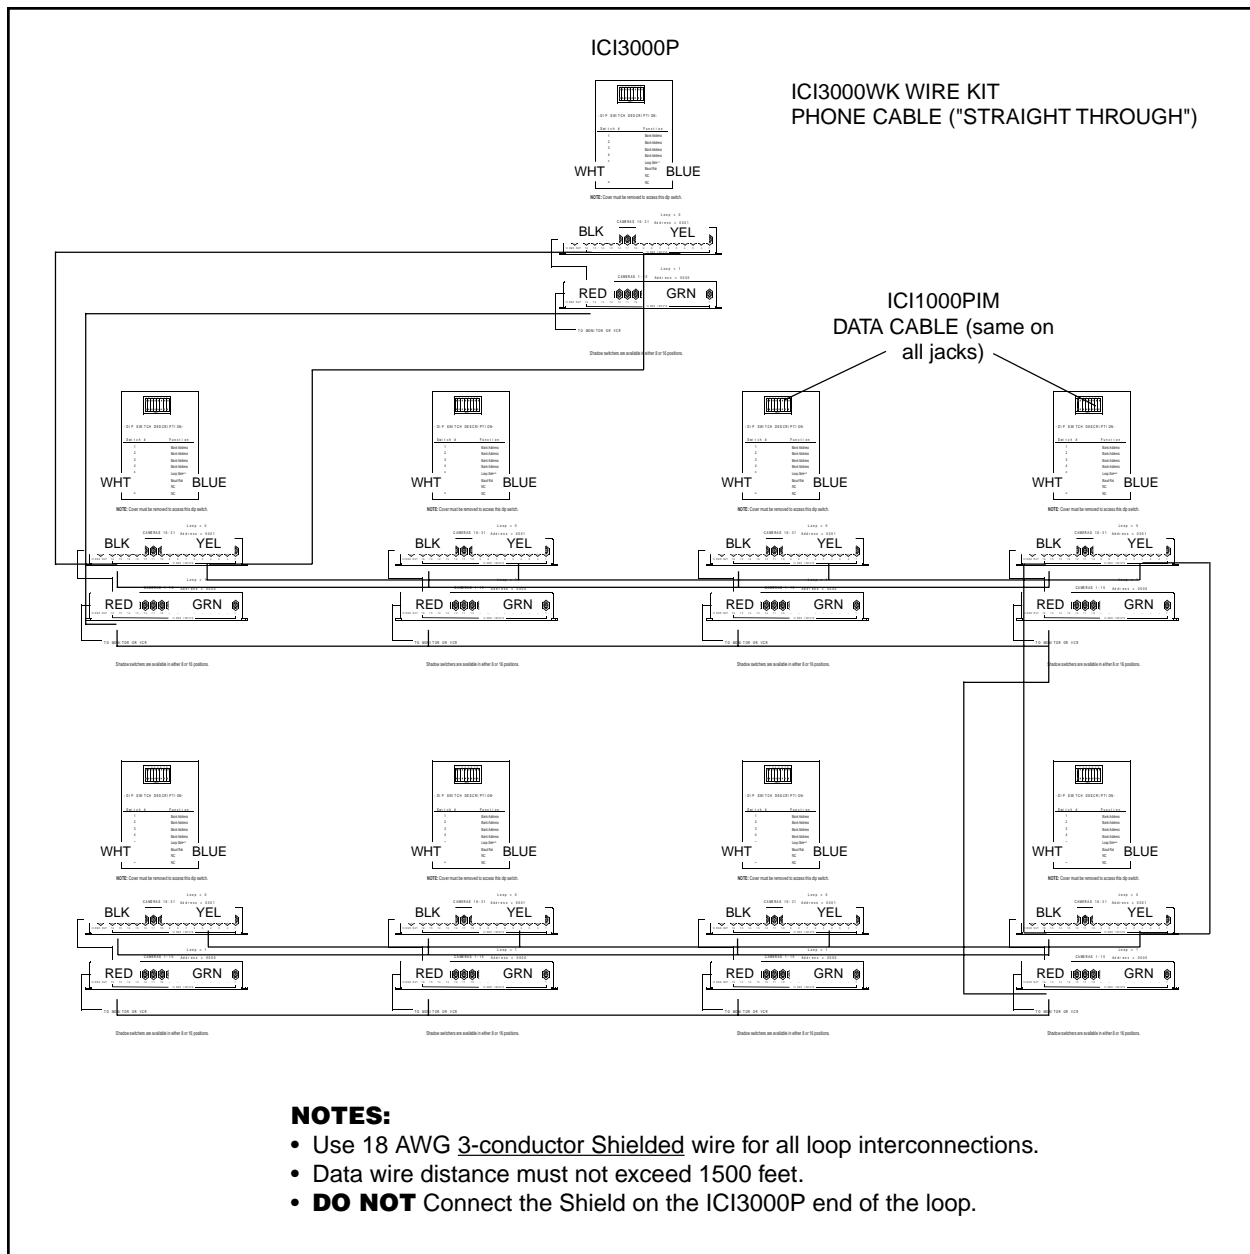

Figure 2. ICI3000P Partyline Wiring Configuration
1. Install an 18 AWG, 3-conductor shielded cable between each RJ14 phone jack at each cash register. Refer to Figure 2 for appropriate wiring configuration.